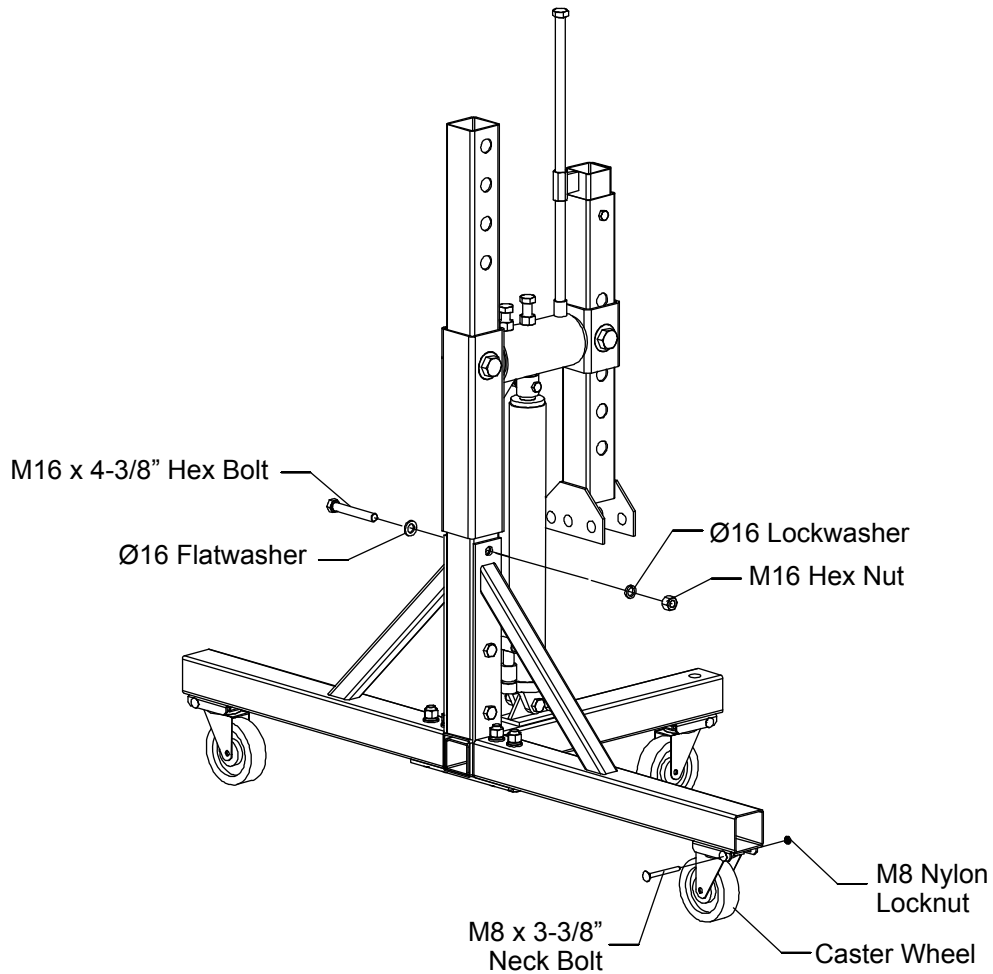

FIG. 1
1. Install the 6 Caster Wheels to the bottom of each Rack Leg, Fig. 1. **NOTE: Do not over tighten bolts.** Install Upright to legs as shown, Fig. 1. You will install 7 bolts, flatwashers, lockwashers and nuts.